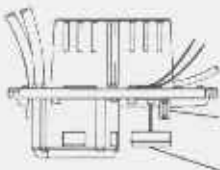

Fig. 6
2. Be sure the floats move freely. Clean as necessary (Fig 6).
3. Test motor switch by raising motor switch float with finger (Fig. 6). Motor should turn on just before circlip on stem contacts stem guide.